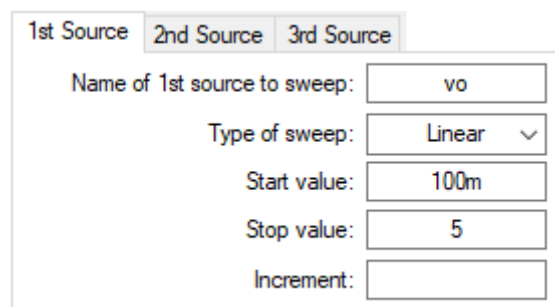

Fig. 5. DC analysis
5. Run DC sweep analysis with the specifications in Fig. 5: